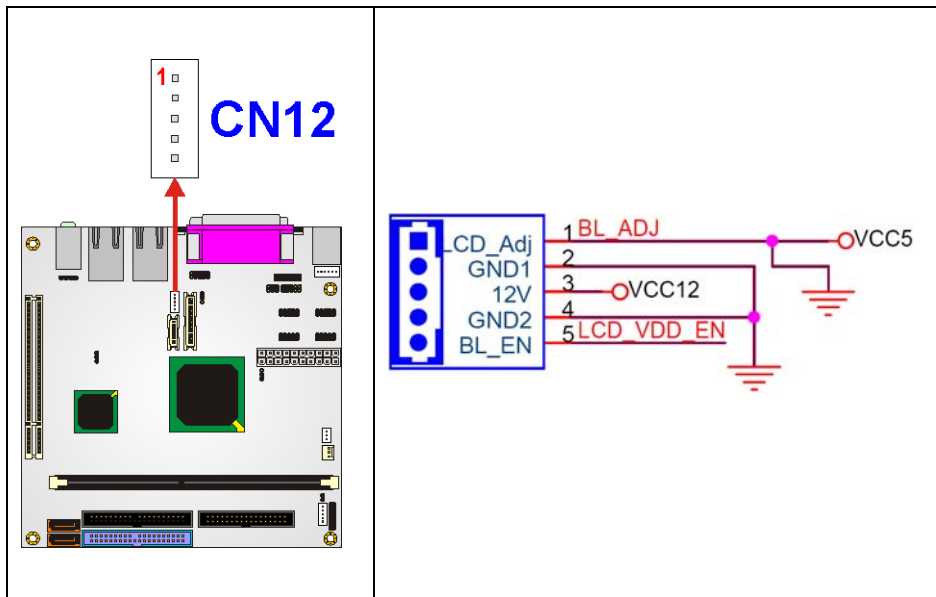

Figure 3-10: Inverter Connector Locations
- CN Location: See **Figure 3-10**